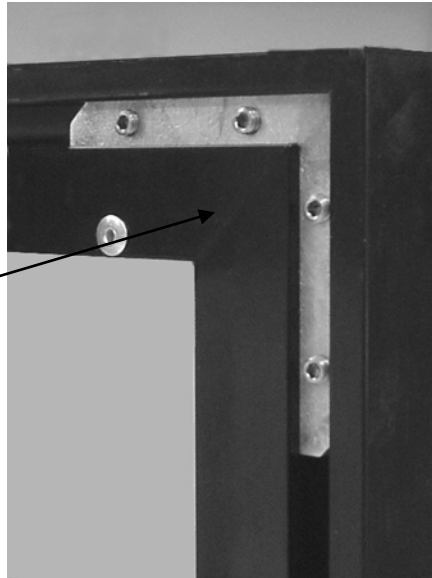

Figure 3: Set Screws & "L" Bracket on Extrusion
- 5.2.2 Remove set screws from the top and bottom of left-side extrusion "L" Bracket. See Figure 3.
- 5.4.2 Remove set screws from the top and bottom of left-side extrusion. See Figure 3.